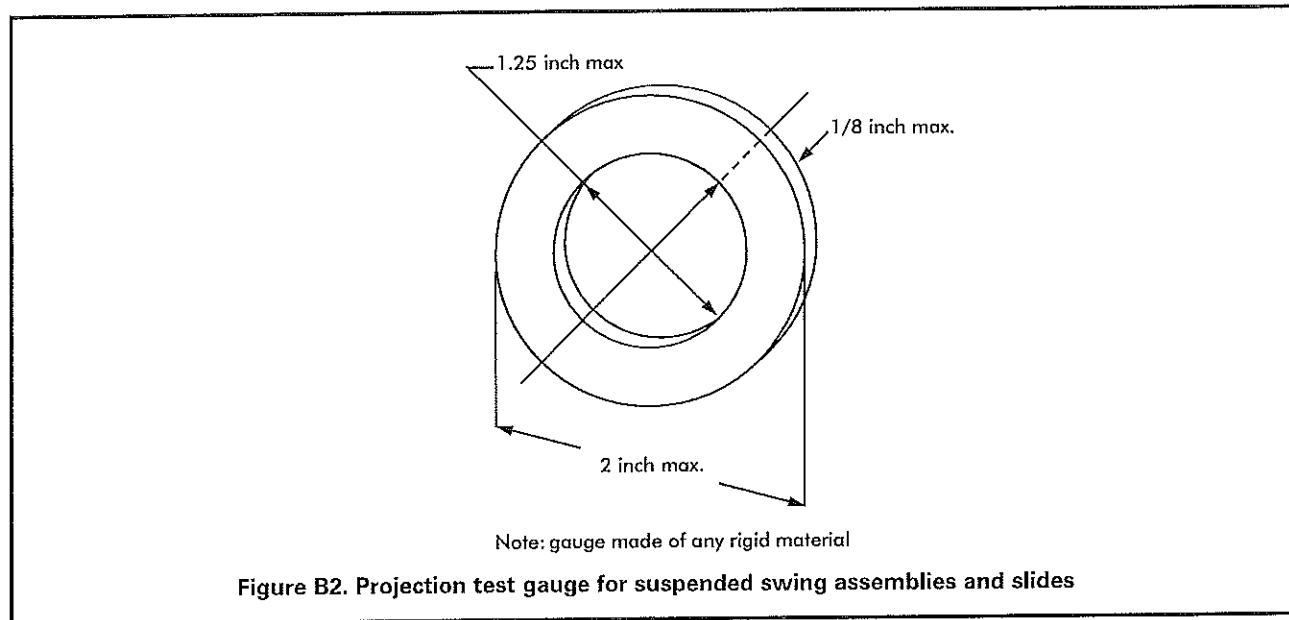

Figure B2. Projection test gauge for suspended swing assemblies and slides
Given the potential for impact incidents, projections on swings can be extremely hazardous. A special test gauge (see Figure B2) and procedure are recommended. When tested, no bolts or components in the potential impact region on suspended members should extend through the hole beyond the face of the gauge.
Step 1: Hold the gauge (Figure B2) vertically with the axis through the hole parallel to the swing's path of travel.
Step 3: Place the swing and slide projection gauge (Figure B2) next to the projection to check the height of the projection.